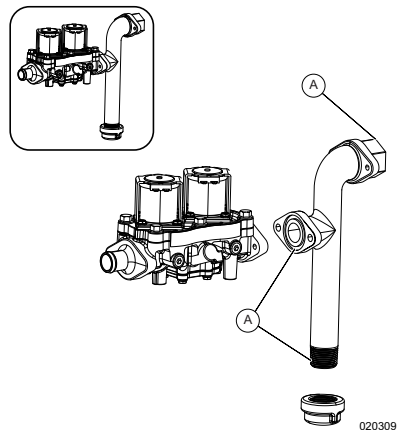

Figure 4-10. Connection Points to Leak Check
See Figure 4-10. Perform a final fuel system leak test after generator installation. The test will identify possible leaks at all connection points (A).